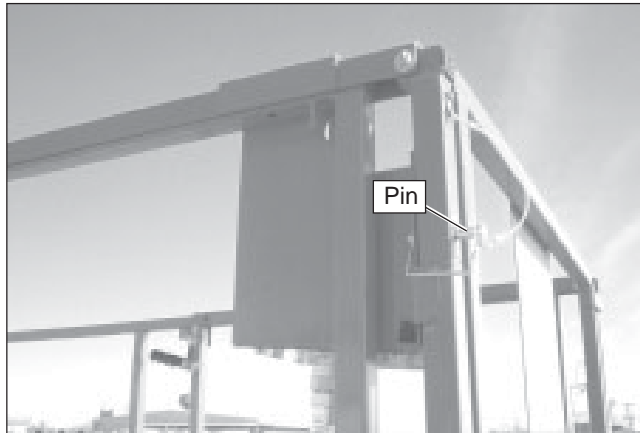

Figure 9.6 – Upper Controls
2. Remove the pin that connects the upper controls to the guardrails (refer to Figure 9.6). Lay the upper controls on the floor of the platform.